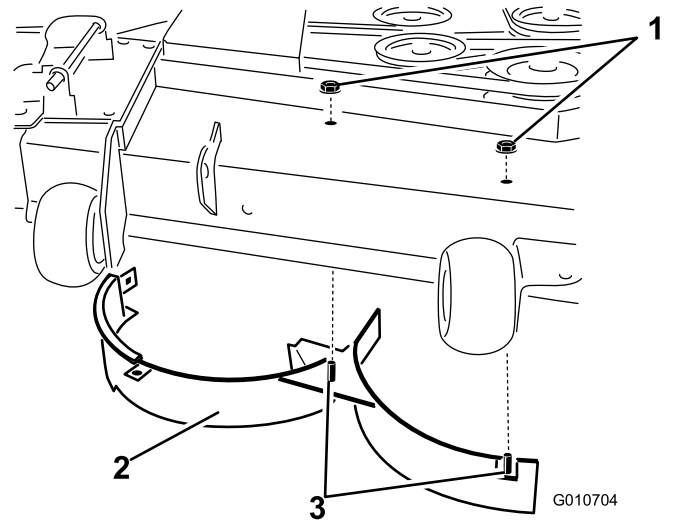

Figure 34
11. Remove the 2 locknuts (5/16 inch) securing the welded posts of the right baffle to the top of the mower deck at center and right of center positions (Figure 34).
12. Remove the carriage bolt and locknut securing the right baffle to the top of the mower deck and remove the right baffle from the mower deck (Figure 34).